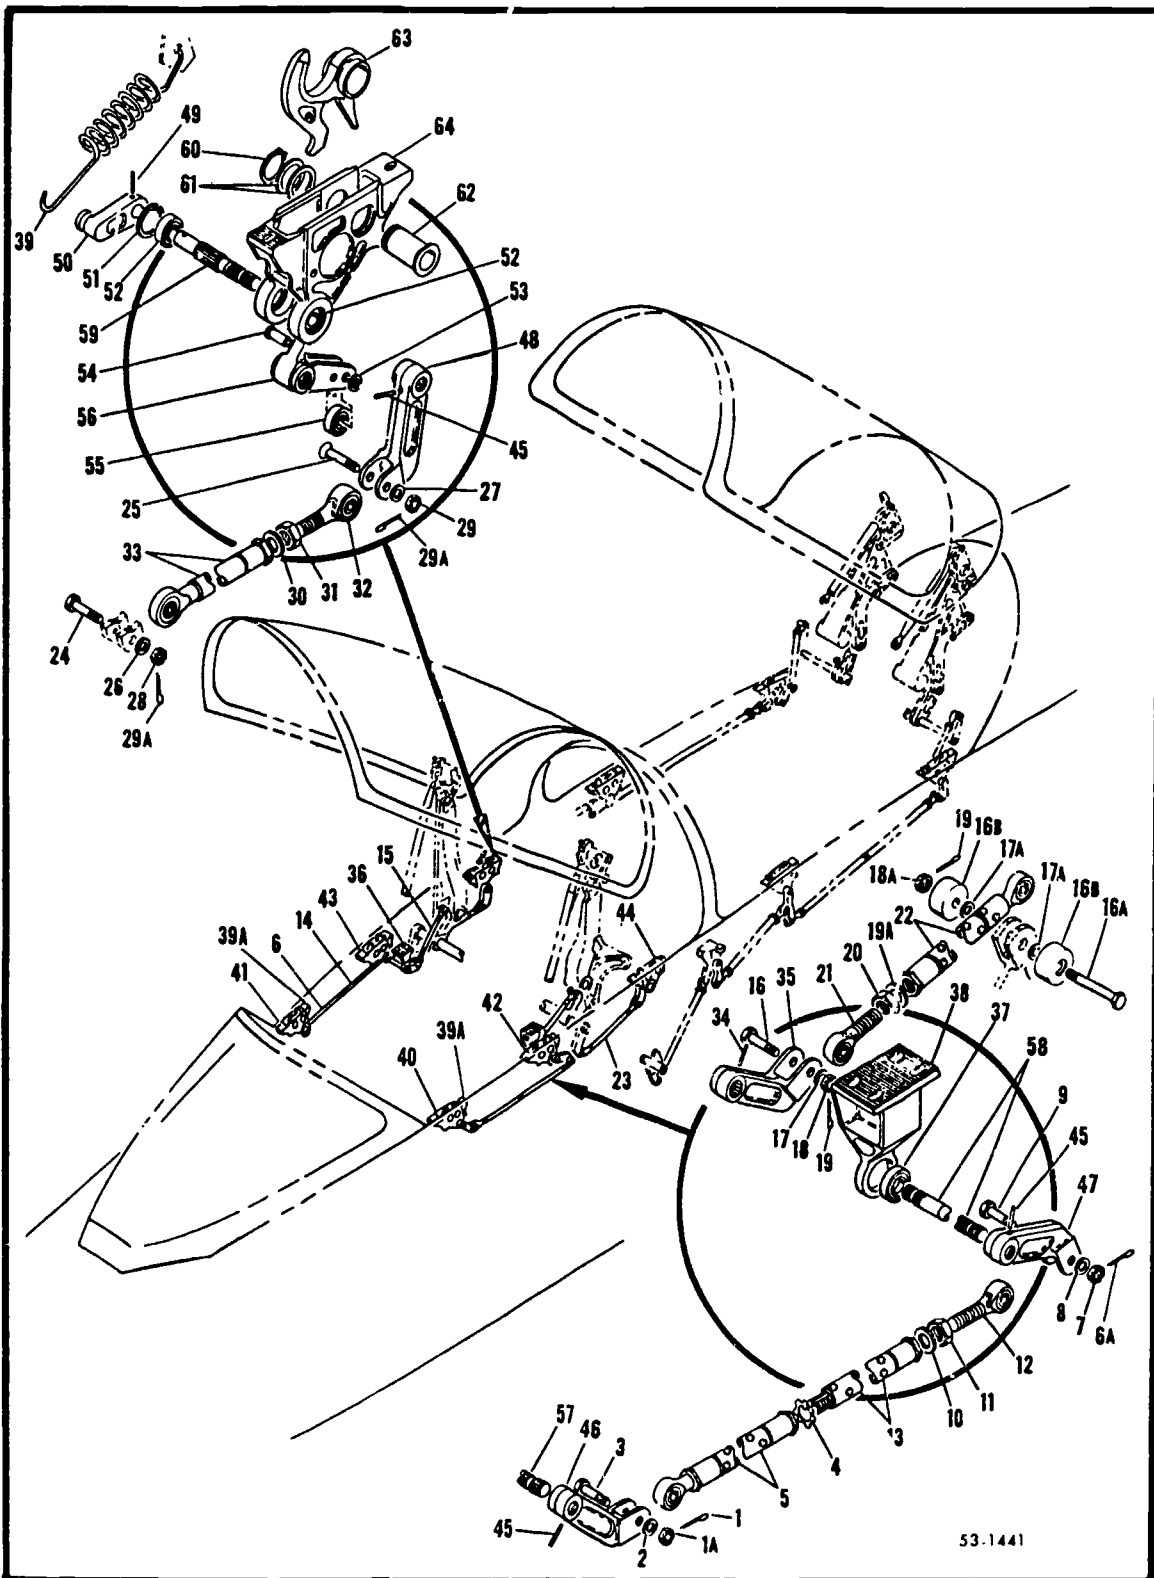

Figure 4-4. Technical order exploded drawing.
**Exploded drawing.** An exploded drawing is actually another form of an assembly drawing. It is used to show the proper relationship of the parts of a unit, not as a final assembled unit but as if the unit were "exploded," or taken apart without the parts losing their relative positions, as in figure 4-4. In TOs, this type of drawing is referred to as a parts breakdown. End items such as aircraft and AGE units have one or more TO volumes each that contain parts breakdown drawings of the various assemblies within the particular items. In a TO, each exploded drawing is accompanied by a parts reference list. Each numbered part on the drawing is entered on the list, which gives the name of the part, the number of times that the part is used in the assembly, the part number, and other information as necessary. These drawings are useful for such things as obtaining part numbers for various parts, identifying the correct part to use, and determining the proper installation sequence for the various parts.
**Exercises (020):**